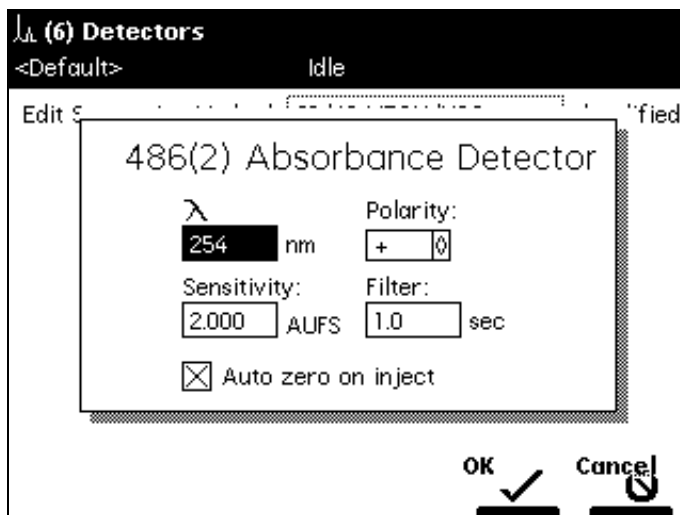

Figure 5-20 486 (2) Absorbance Detector Screen
1. In the Detectors screen, press the **Abs (1)** or **Abs (2)** screen key to display the appropriate absorbance detector screen. Figure 5-20 shows the screen for a Waters 2487 Dual λ Absorbance Detector.